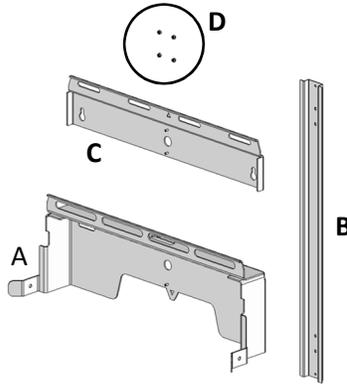

Figure 3-6, Mounting Bracket Assembly
The Mounting Bracket assembly includes three (3) pieces of sheet metal (A, B, C) and four (4) M5 x 0.8 SS nuts (D), as shown in Figure 3-6.